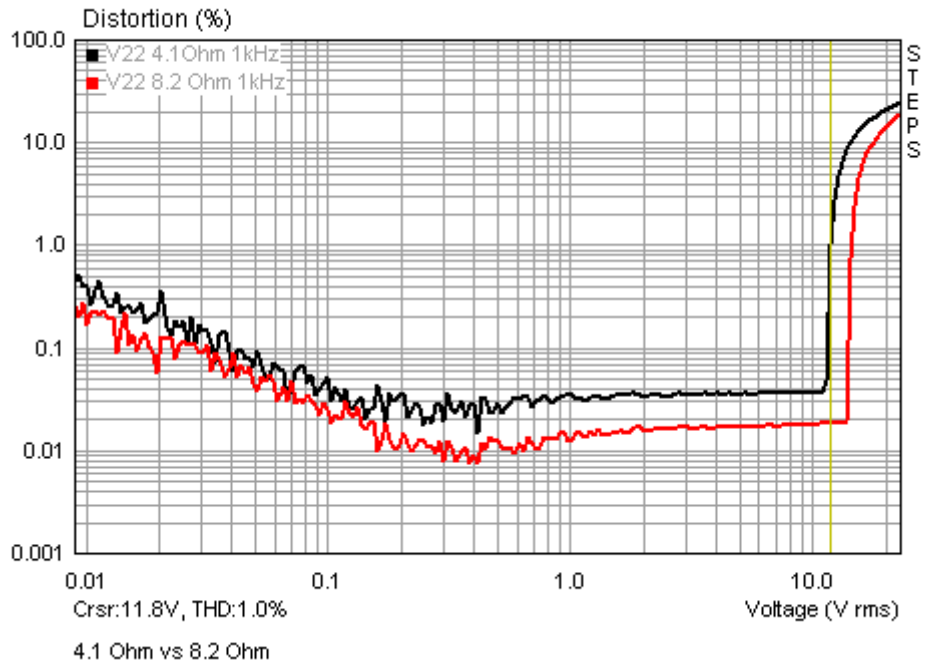

Figure 3.3.2 THD vs voltage @ 1kHz for a small power amplifier.
Figure 3.3.2 shows distortion in a small power amplifier at 1kHz as a function of voltage. Notes on measurement and setup can be found in Section 5.4 of the ARTA Handbook.
- Amplifier power $P = 25\ \text{watts}$ (see note and Figure 3.3.2).
Note: It is not always a good idea to rely on manufacturer's specifications. The t-amp is rated at 36 watts into 8 ohms, but Figure 3.3.2 suggests that in reality this should be 24 watts. Thus, rather than turning the volume control to its maximum, the input sensitivity of the power amplifier and the maximum output voltage of the sound card should be adjusted. Back off the volume until, with 0 dBFS feeding in from the sound card, the amplifier output just stops clipping. This should be the maximum excitation voltage for measurement, and should form the basis for calculation of the voltage divider components.